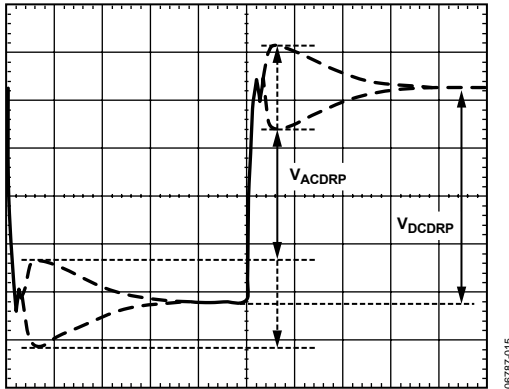

Figure 17. AC Load Line Waveform
- Measure the output waveform (use dc offset on scope to see the waveform). Try to use a vertical scale of 100 mV/div or finer. This waveform should look similar to Figure 17.
- Use the horizontal cursors to measure V_{ACDRP} and V_{DCDRP} , as shown in Figure 17. Do not measure the undershoot or overshoot that happens immediately after this step.